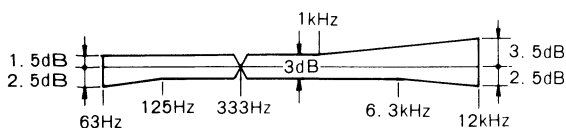

Fig. 59 Using STD-602 and the CrO₂ Position, with DOLBY NR OFF.
7. Then recheck that the recording/playback frequency response again conforms to the limits shown in Figs 59 and 60.